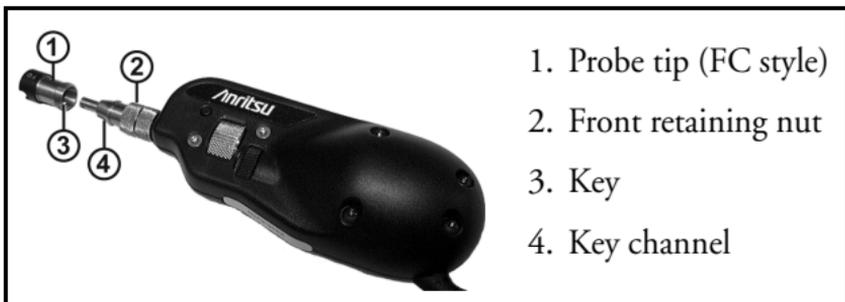

Figure 5-4: Attaching a Probe Tip
2. Select the desired probe tip. Make sure that the key (small set screw on the inside of the threaded end of the probe tip) aligns with the key channel on the barrel assembly (see items 3 and 4 in Figure 5-4 on page 5-5) and slide the probe tip into place.
3. Secure the probe tip in place with the front retaining nut (see item 2 in Figure 5-4).